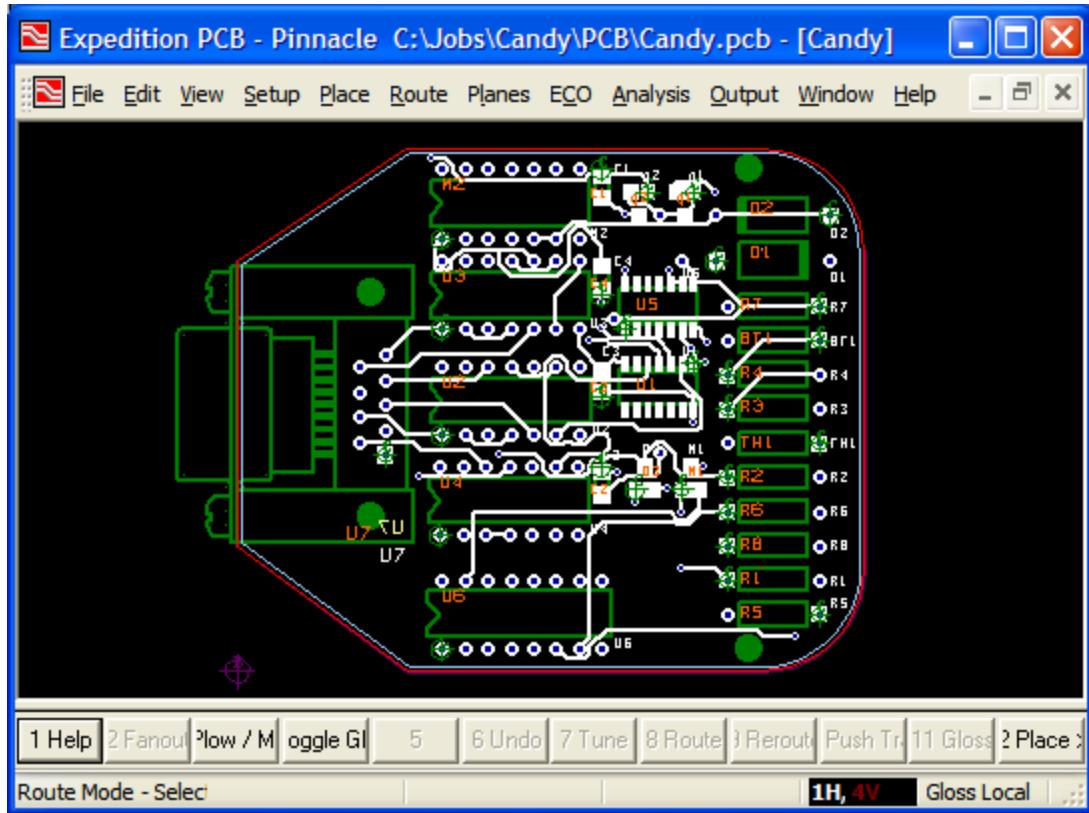

Figure 13-4. After executing the **View > Display Layer 1** command.
- 5) Execute the new **View > Display Layer 1** menu button command (or use the new <Ctrl>+1 accelerator) and observe the results as illustrated in Figure 13-4.